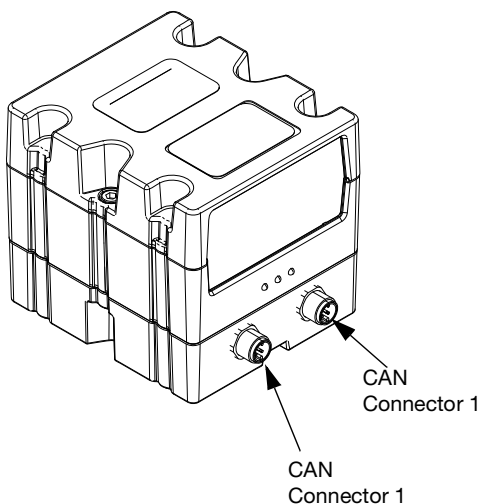

FIG. 33
3. Mount CGM (A) on base (B) with two screws (C).
4. Install access cover (D).
5. Connect CAN cable from either CAN connection on the CGM to the CAN connection found on the CGM to the CAN connection found on the bottom of the ADM. See FIG. 33.